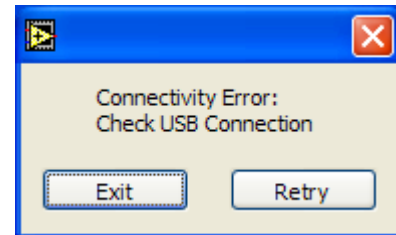

Figure 2. Connectivity Error Alert
2. If the evaluation board is not connected to the USB port when the software is launched, a connectivity error is displayed (see Figure 2). Simply connect the evaluation board to the USB port of the PC and click **Retry**.